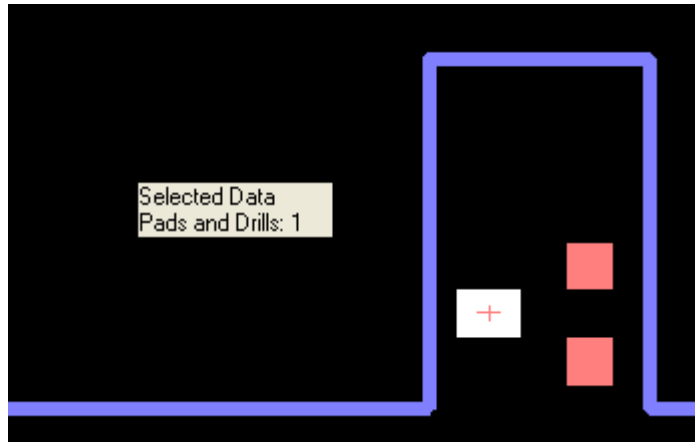

Figure 31
1. With the Top Paste layer (P4) set to Edit, and the Top Silkscreen layer set to View (P2), select all 16 pads used in the SOIC16 pattern for R31 (using “left-mouse, click-drag” to create a selection box, then choose Select Touching) – See Figure 31: